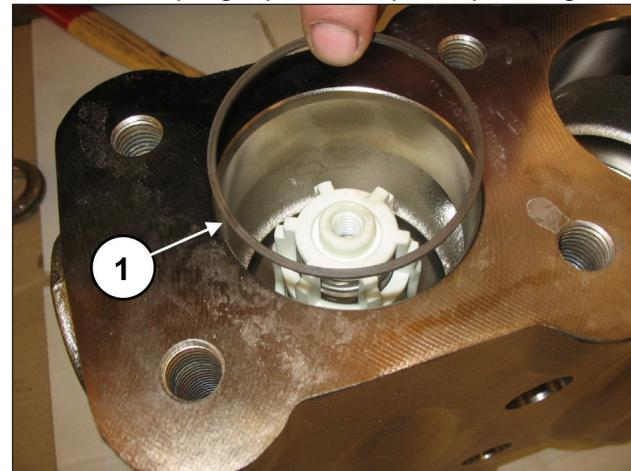

Fig. 122
Insert the back-up ring, exploded view pos. 16 (pos. ①, Fig. 122).